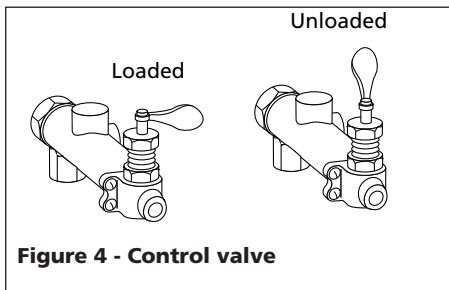

Figure 4 - Control valve
2. Before starting the compressor, always put toggle lever in unload position (See Figure 4).
2. Start compressor and allow pressure to reach proper limit of control valve (See Figure 4) which is set at 175 psi for 2 stage compressor, and 125 psi for single stage compressor.